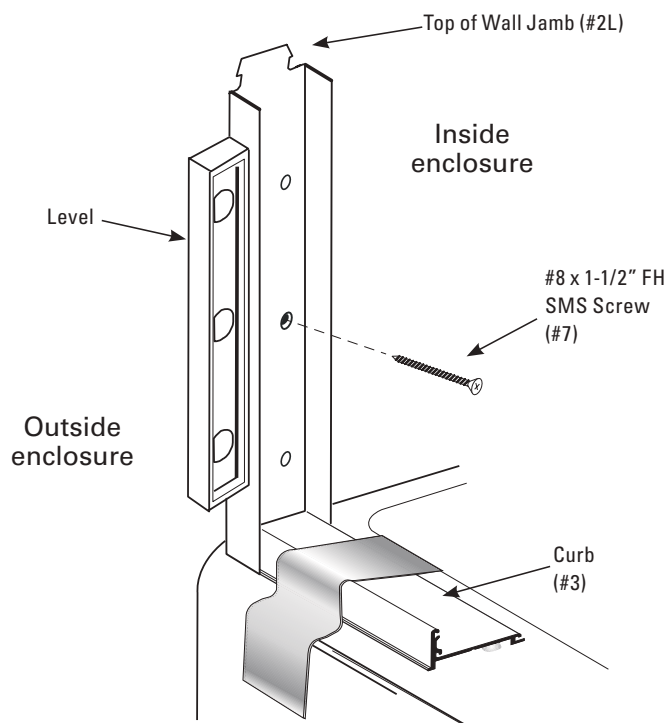

Figure 3A
B. Place the left Wall Jamb against the left wall and slip the bottom of the Wall Jamb over the Curb. Use a level, held against the side of the Wall Jamb to align it vertically straight up and down as shown in **Figure 3A**.